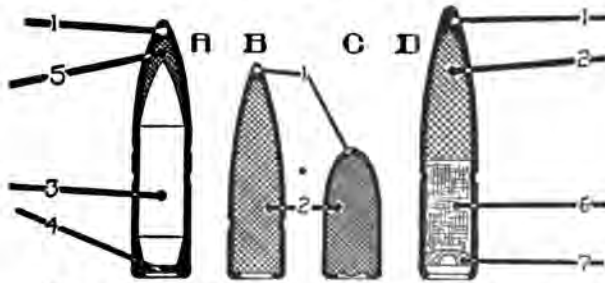

FIGURE 91. U.S. SERVICE BULLETS, CALIBER .30
**The Armor-piercing Bullet** is a pointed, flat base bullet with a gilding metal jacket. The core is of pointed, boat-tailed shape and is made of hardened tungsten chrome steel. The steel core is slightly shorter than the assembled bullet, and the space inside the jacket and in front of the core is filled with lead, while the space in rear of the boat-tail core has a gilding metal base filler cup. See Figure 91. This bullet is intended for use against airplanes, tanks, armored vehicles, and pill boxes. For identification the Caliber .30 Armor-piercing Bullet has a blackened tip, blackened for about  $\frac{1}{4}$ -inch from the point.
the bullet from muzzle to target by day or night. Tracer bullets have the point of the bullet colored red for identification. See Figure 91.